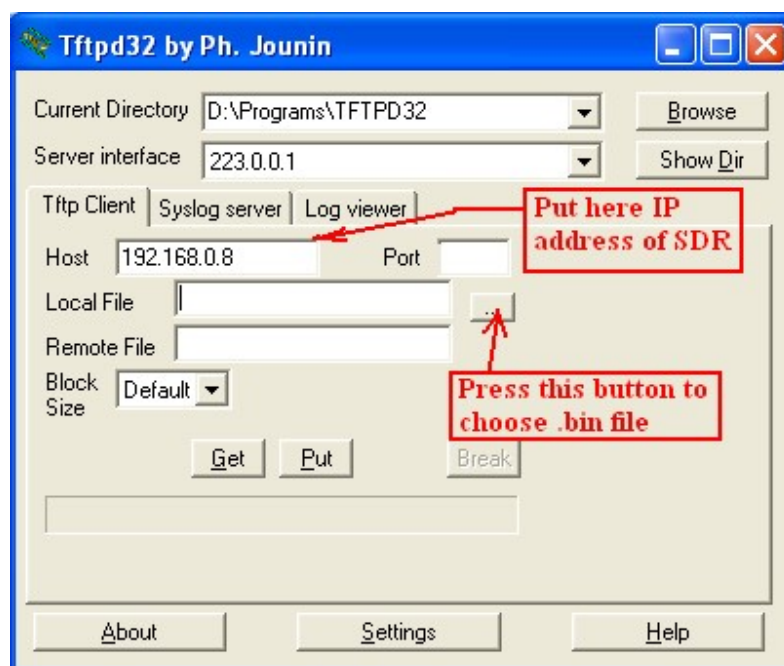

Figure 9 Tftpd32 utility (red color writings shows author's comments)
- 3.1.5. You need to start tftpd32.exe utility, screen-shot of this utility is shown on **Figure.9**